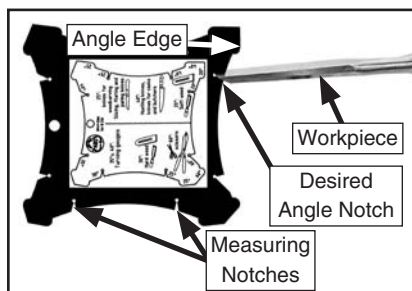

Figure 10. Measuring notches.
1. Locate the eight measuring notches on the angle finder (**Figure 10**).